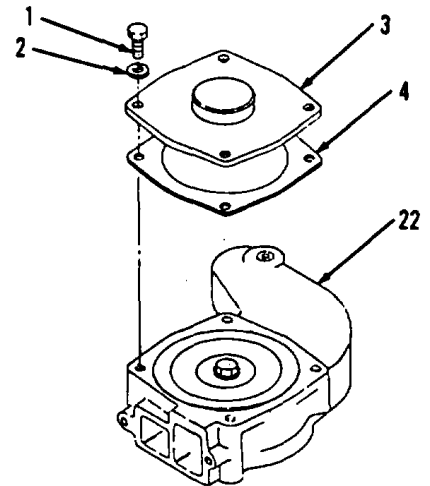
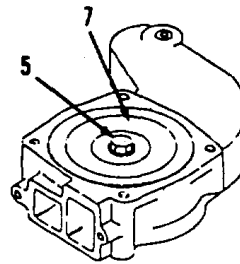
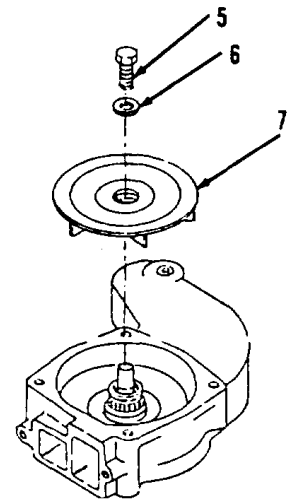

Figure 3-179.
Figure 3-180.
Figure 3-181.
1. Remove two bolts (1) and washers (2, Figure 3-179).
2. Separate cover (3) and gasket (4) from housing (22). Discard gasket (4). Remove all gasket material from mounting surfaces.
3. Loosen bolt (5, Figure 3-180) ¼ turn.
4. Using soft hammer, strike bolt (5) head to loosen impeller (7).
5. Remove bolt (5) and washer (6, Figure 3-181).